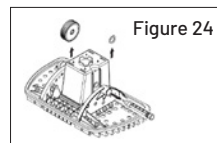

Figure 24
7. Remove the Oscillator Sleeve, releasing the Oscillator Sleeve Bushing and the Clutch assembly, (see Figure 24).